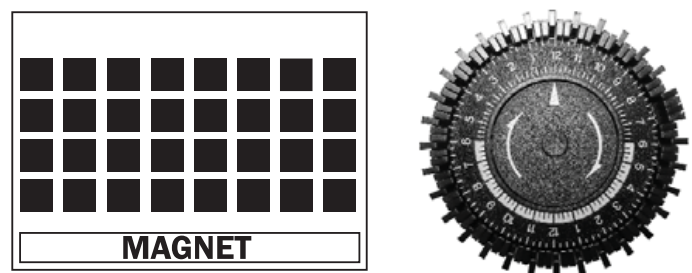

Figure 2: Defrost timer and grain control magnet position for operating in temperatures above 50°F to 90°F.
This allows increased airflow across the evaporator and increases performance by increasing the amount of air that is dehumidified. This temperature range is often found during the first 24 hours of a drying job. When the Phoenix 200 HT is used in cooler operating temperatures (50°F to 70°F), the grain control magnet increases airflow across the evaporator and reduces frost formation. See Figure 2 below for correct grain control magnet position for operating in temperatures from 50°F to 90°F.
3. The timer is fastened to the base at the front of the unit. Every third peg around the dial is pushed out from the dial center except one section with 4 pegs out in a row. The grain control (8 holes at the intake of the unit below the filter) should be open. Refer to Figures 2 and 3.